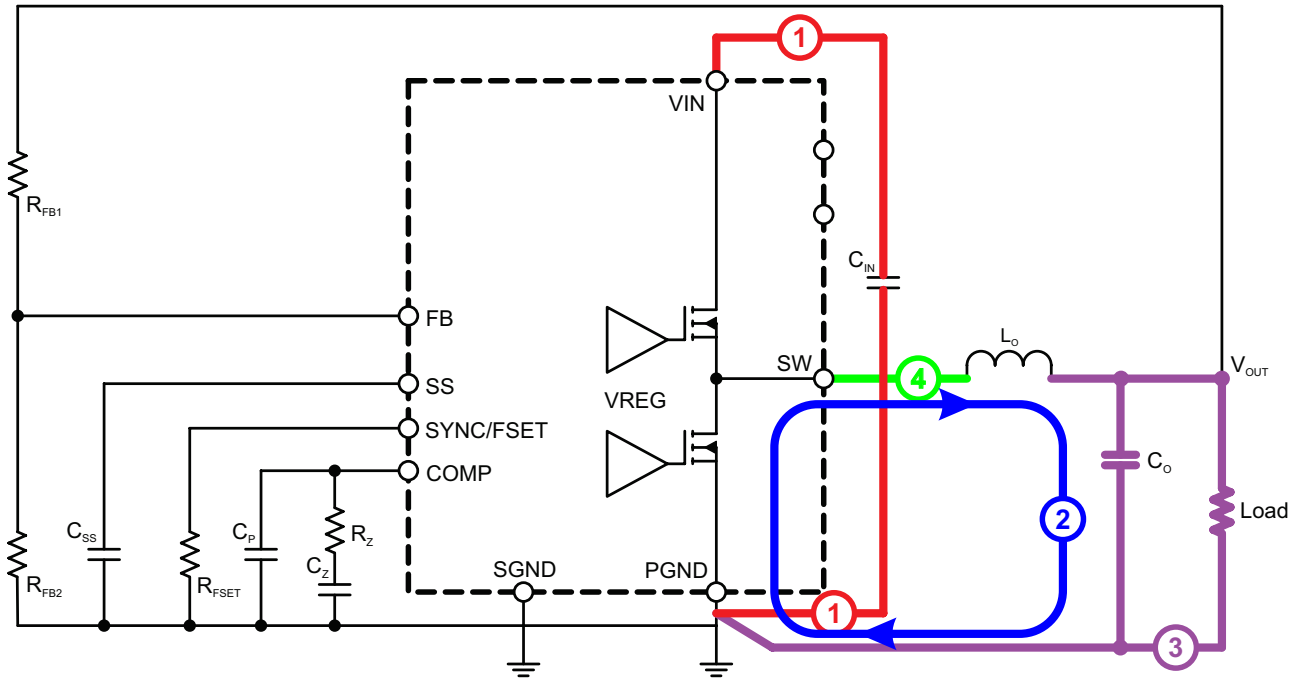
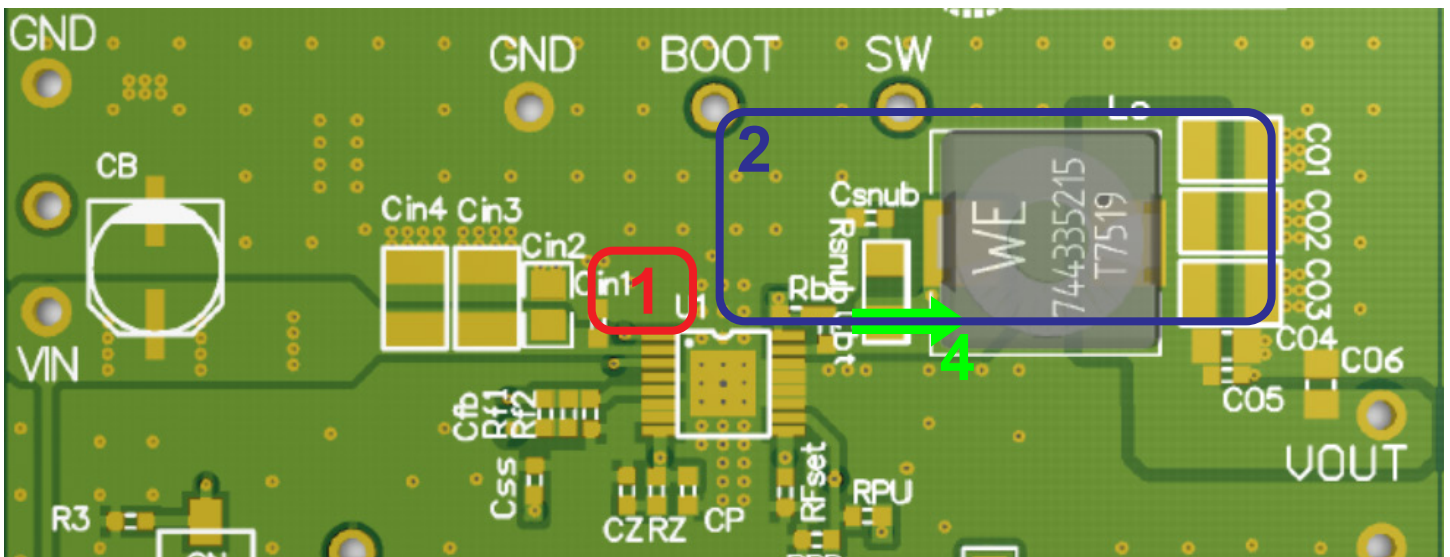

Figure 7: Typical Synchronous Buck Regulator
Figure 8: Example PCB Component Placement and Routing
A good PCB layout is critical for the A8654 to provide clean, stable output voltages. Follow these guidelines to ensure a good PCB layout. Figure 7 shows a typical buck converter schematic with the critical power paths/loops. Figure 8 shows an example PCB component placement and routing with the same critical power paths/loops from the schematic.
1. Place the ceramic input capacitors as close as possible to the VIN pin and GND pins to make the loop area minimal; and the traces of the input capacitors to VIN pin should be short and wide to minimize the inductance. This critical loop is shown as Trace 1 in Figure 7 and Figure 8. The larger input capacitor can be located further away from VIN pin. The input capacitors and A8654 IC should be on the same side of the board with traces on the same layer.
3. When the high-side MOSFET is off, free-wheeling current flows from ground, through the synchronous low-side MOSFET, into the load via the output inductor, and back to ground. This loop should be minimized and have relatively wide traces. This loop is shown as Trace 2 in Figure 7 and Figure 8.
4. Place the output capacitors relatively close to the output inductor ( $L_O$ ) and the A8654. Ideally, the output capacitors, output inductor and the controller IC A8654 should be on the same layer. Connect the output inductor and the output capacitors with a fairly wide trace. The output capacitors must use a ground plane to make a very low-inductance connection to the GND. These critical connections are shown as Trace 3 in Figure 7.
5. Place the output inductor ( $L_O$ ) as close as possible to the SW pin with short and wide traces. This critical trace is shown as Trace 4 in Figure 7 and Figure 8. The SW node voltage transitions from 0 V to  $V_{IN}$  and with a high  $dV/dt$  rate. This node is the root cause of many noise issues. It is suggested to minimize the SW copper area to minimize the coupling capacitance between SW node and other noise-sensitive nodes. However, the SW node area cannot be too small in order to conduct high current. A ground copper area can be placed beneath the SW node to provide additional shielding. Also, keep low-level analog signals (like FB, COMP) away from the SW polygon.